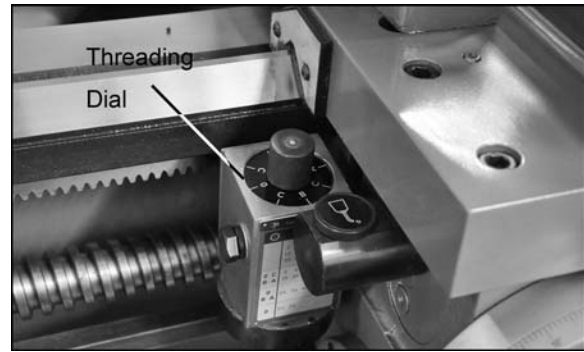

Figure 25
8. **Threading Dial** (Figure 25): Indicates the point on the leadscrew where the half nut can be re-engaged to continue inch threading.